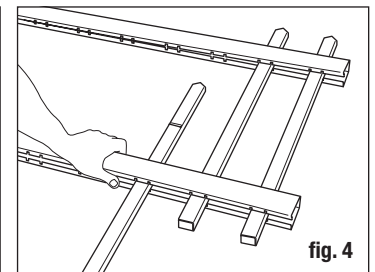

fig. 4
- Continue this process until all pickets are inserted into the rail with the tabs and notches aligned (fig. 4).
- While holding the bracket in place, attach one screw into one of the slotted holes. Place the screw at the end of the slot closest to the mounting face of the bracket (fig. 4).
- Continuez ce processus jusqu'à ce que tous les piquets soient insérés dans les traverses, les languettes et les encoches alignées (fig. 4).